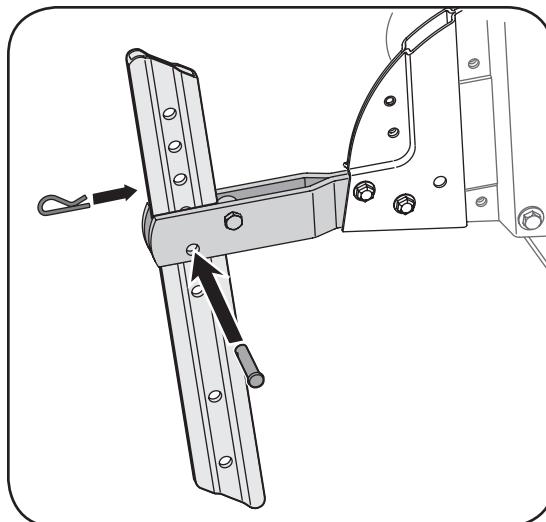

Figure 3-7: Reassemble depth stake.
4. Insert the depth stake into the depth gage bracket assembly as seen in Figure 3-7. Secure the pin with the clip removed earlier. The depth stake can be placed at various positions. For setup purposes it is suggested that the depth stake be assembled with the stake just above or level with the ground surface. For further instructions on the Depth Stake refer to adjustments section of this manual.